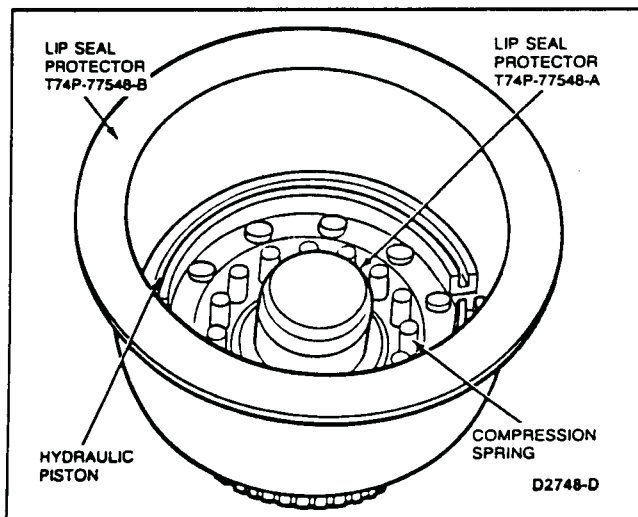

FIG. 32 Seal Protector—Inner and Outer
2. Use protective Lip Seal T74P-77548-A and B or equivalent, to prevent damage to inner and outer seals (Fig. 32). Install new seals on the piston, apply petroleum jelly to the seals and to the shoulder at the clutch stub, and install the piston carefully.
7. Install new steel seals on the clutch hub (Fig. 32).